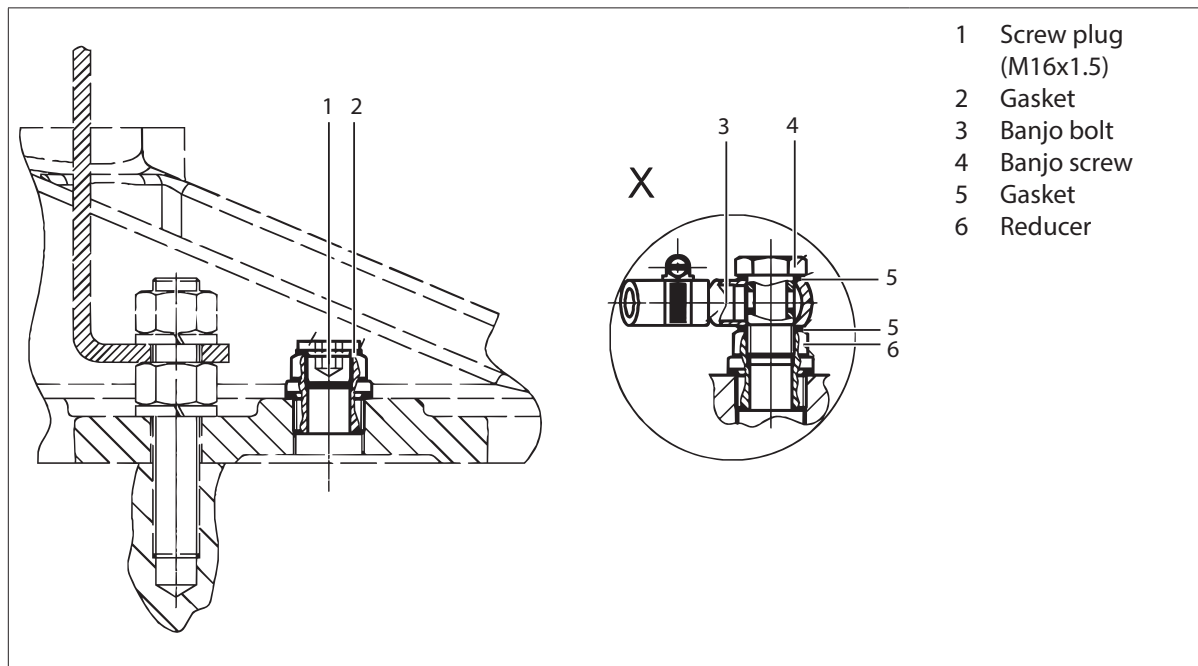

Fig. 21: Accessory set, Part 3: Hollow screw and two gaskets
1. Remove the screw plug (1) marked with a red dot and the gasket (2) underneath it. Both are no longer required for operation.
2. Into the open threaded hole of the reducer (6), screw the banjo bolt (3) of the connection hose according to Fig. 21, p. 33, detail X with new gaskets (5) and new hollow screw (4), taking into account the arrangement of the components.